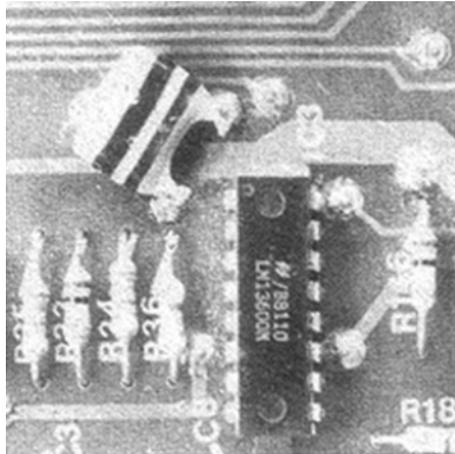

Figure 3. Reduction of interference from sampling clock on pedal wires. See note 8.
- 8 If you notice a background whistle when the pedals are pressed then connect a 0.1 $\mu$ F polyester capacitor to the track pin at the top of R36 and the track pin next above it to the right. See Figure 3.